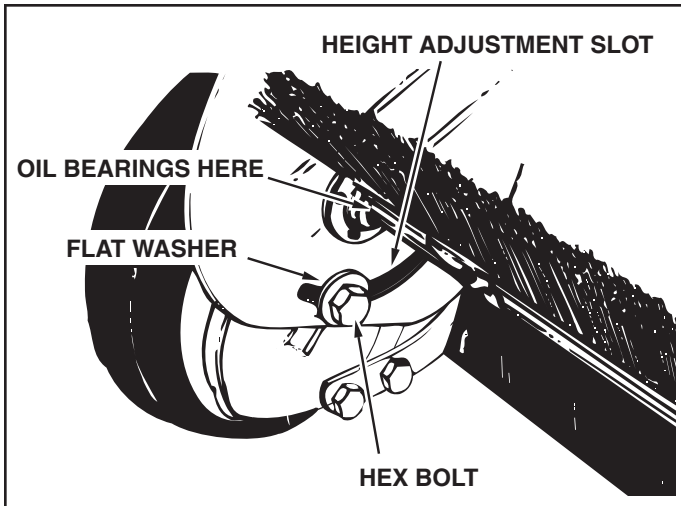

FIGURE 23
- Lubricate the brush shaft bearing twice a year with a few drops of light weight oil. See figure 23.